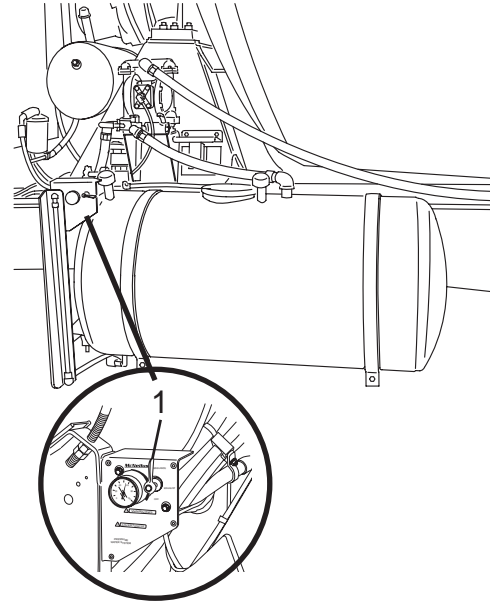

Figure 76
4. Turn the air pressure control valve (Figure 76, Item 1) to the PRESSURIZE position to start the pump.
To stop the pump, turn the air pressure control valve (Figure 76, Item 1) to the OFF position.